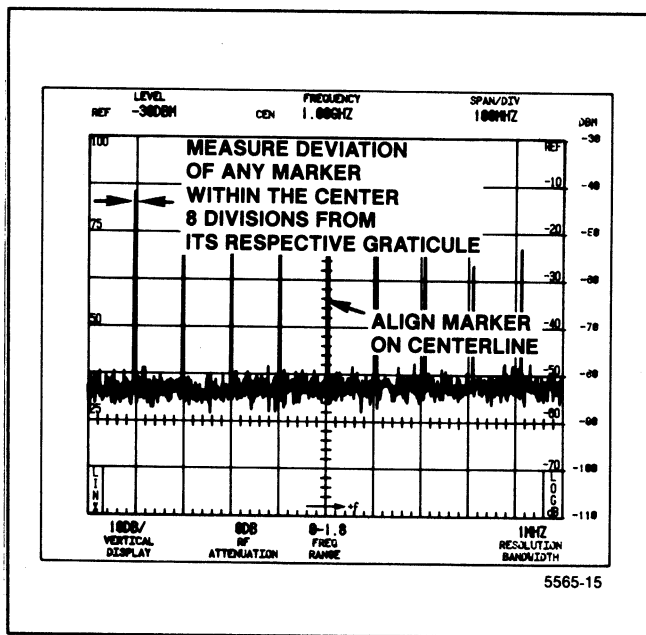

Figure 4-7. Typical marker display for measuring Span/Div accuracy.
b. Apply the CAL OUT signal to the RF INPUT and set the FREQUENCY to align the 100 MHz markers so the 100 MHz/div accuracy can be measured over the center eight divisions of the display. It may be necessary to change the REF LEVEL to obtain adequate marker amplitude. Maximum deviation (see Figure 4-7) must not exceed 5 MHz.